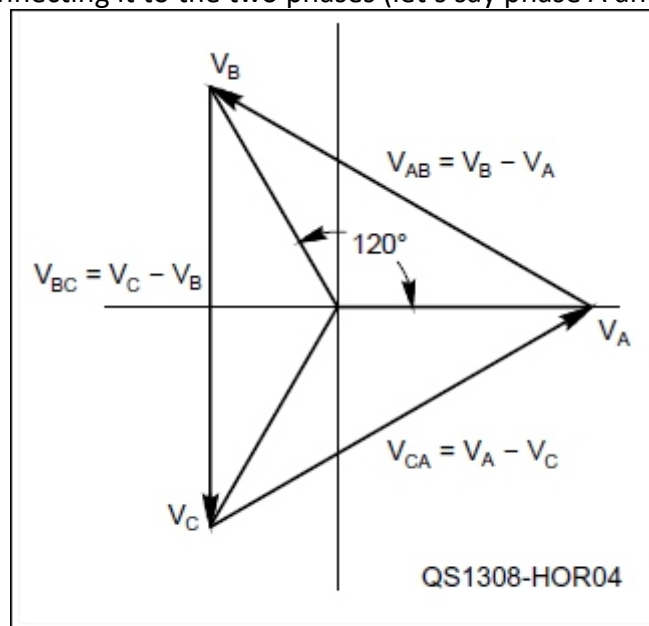

Figure 4 — Phasor diagram for three-phase power.
The phasors representing each of the three phases — A, B, and C — are shown in Figure 4. They are all spaced equally around the circle, $1/3$ of the circumference or 120° apart. Let's say your apartment in a big building is supplied with two phases of power, just like residential split-phase ac power, and each phasor has an amplitude of 120 V. What happens when you try to run the drier by connecting it to the two phases (let's say phase A and B)? Why don't you get 240 V?
Look at Figure 4 and the phasor V_{BA} . The two phasors representing the phases of electrical service, V_A and V_B , are not pointing in opposite directions — they are only 120° apart — so their magnitudes don't add as in the split-phase situation. In fact, if you look up the trigonometry, the magnitude of phasor $V_{BA} = \sqrt{3} V_A = 1.732 V_A$, not $2 V_A$. If each phase is supplying 120 V, what voltage will your dryer see if it is connected across two phases? ($120 \times 1.732 = 208$ V)
Oversimplifying to a degree, this is what IQ modulation is in which two different modulated signals are combined: the I signal (for *in phase*) and the Q signal (for *quadrature*). Both the I and Q signals are regular carrier signals, but the Q signal is 90° ahead of the I signal as shown in Figure 4. Modulating the I and Q signals independently and combining them can cause the resulting phasor to move around in the pattern of any of the AM or FM phasors discussed previously.
Figure 4 — IQ modulation uses two independent carriers, I (in-phase) and Q (quadrature) shifted 90 degrees. By turning the I and Q carriers on and off, the resulting signal phasor takes any of four positions in the resulting constellation diagram, representing four different data symbols.
Digital data can be transmitted by turning the I and Q signals on (1) and off (0) independently (also called *amplitude shift keying*), creating four possible combinations (00, 01, 10, and 11). By adding the on-or-off I and Q phasors together, the result is four different phasors shown in Figure 4. This is called *quadrature amplitude modulation* or *QAM* and each position of the phasor is called a *symbol*. If there are four possible symbols, it is called 4-QAM. A receiver demodulates the I and Q signals separately and decodes the phasors into the same on/off combinations, reproducing the same stream of digital data.